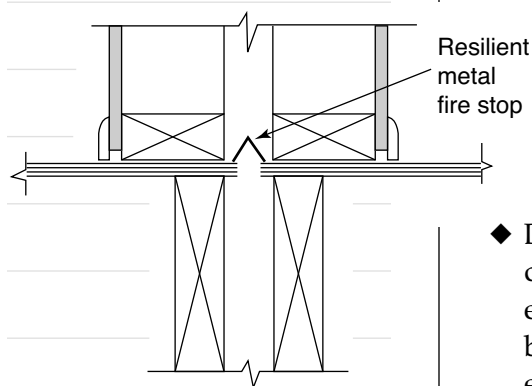

FIGURE 15
- ◆ Do not allow continuous layers of wood to pass under the wall. Make a saw-cut to prevent this happening with double stud systems. Do not use continuous joists under a party wall. Use a resilient metal fire-stop, not gypsum board, to ensure effective separation as shown in Figure 15.